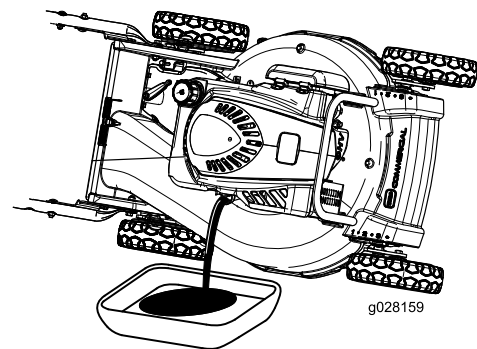

Figure 23
4. Tip the machine onto its side, with the dipstick down, to drain the used oil out through the oil-fill tube (Figure 23).